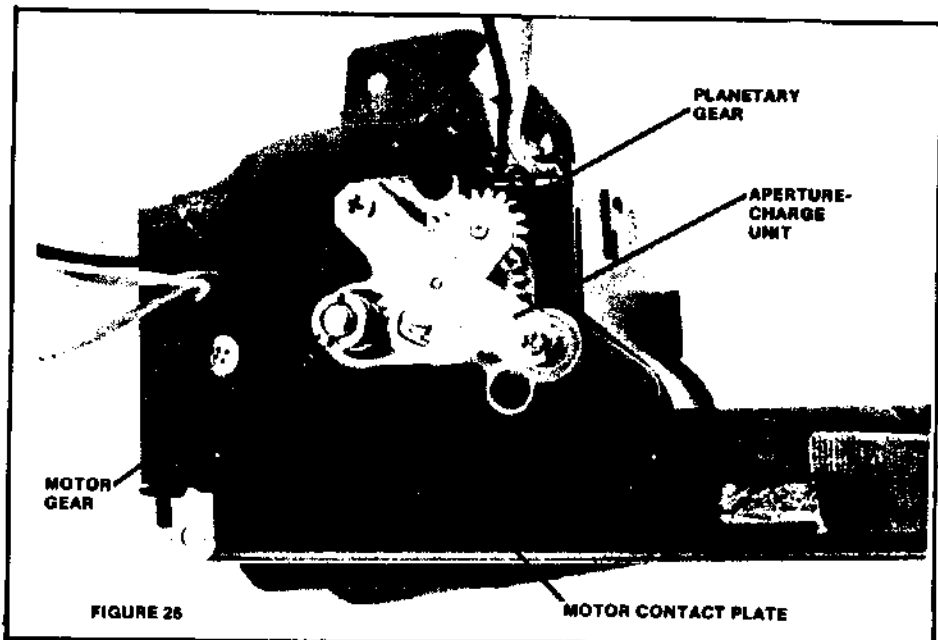

FIGURE 26
C. The winding motor runs in the reverse direction, turning the motor gear ccw, Fig. 3. The planetary gear, Fig. 26, shifts clockwise to raise the mirror and allow the diaphragm to close.
H. The planetary gear, Fig. 26, swings CCW to free the mirror. The spring-loaded mirror returns to the down position. As the mirror returns, SW400 opens. However,